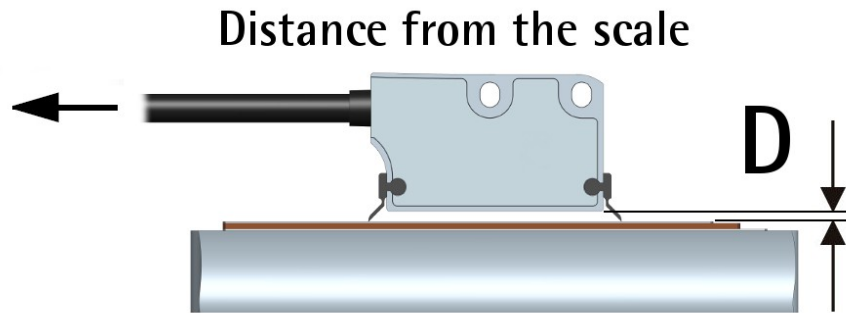
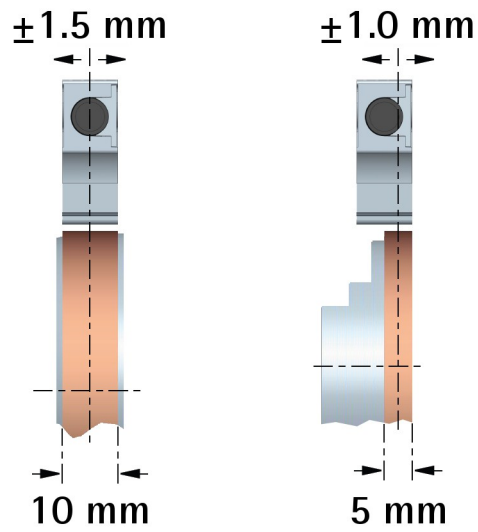
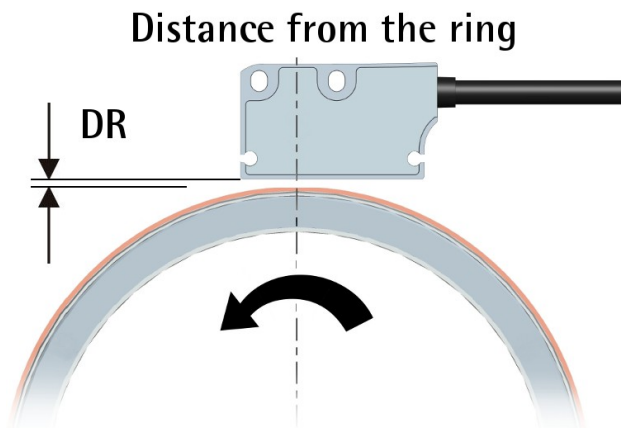

Figure 1 - Encoder / tape mounting gap
Figure 4 - Sensor / ring alignment
Figure 5 - Sensor / ring mounting gap
You can mount the readhead in both directions over the tape. The arrow in Figure 1 indicates the **standard counting direction** (the rising edge of A signal leads the rising edge of B signal) when the sensor moves in the direction indicated by the arrow; further information in the "4.7 Counting direction" section on page 20.
The distance D (see Figure 1) between the bottom of the encoder and the MT magnetic scale must be as follows:
When the sensor is installed on magnetic rings having a 10 mm / 0.4" wide magnetic surface, line up both the sensor and the ring on the central axis. When magnetic rings having a 5 mm / 0.2" wide magnetic surface are used, line up the sensor and the ring as shown in Figure 4; please consider that the incremental sensor is located laterally in the sensing head. With 5 mm rings the mounting direction of the ring makes no difference (but ascertain that the sensor is properly aligned on the correct side!).
To learn about the mounting tolerances refer to the tables below as well as to Figure 4 and Figure 5.
The positive counting direction (the rising edge of A signal leads the rising edge of B signal) is achieved when the sensor moves on the tape according to the arrow shown in Figure 1; or when the ring turns according to the arrow shown in Figure 5. For further information see the "4.7 Counting direction" section on page 20.
3.10 Optional cleaning wipers (Figure 1)
The **standard counting direction** (the channel A leads the channel B) is to be intended with sensor moving as shown in Figure 1 in a linear application; with ring turning as indicated by the arrow in Figure 5 in a rotary application.
By default the phase relationship between A and B channels is so that the rising edge of A channel leads the rising edge of B channel when the encoder moves in the direction shown by the arrow in Figure 1 in a linear application; or when the ring turns as indicated by the arrow in Figure 5 in a rotary application (see the "4.6 ABO, /ABO output channels" section on page 20). Thus the counter in the subsequent electronics will get a count up. It cannot be changed.